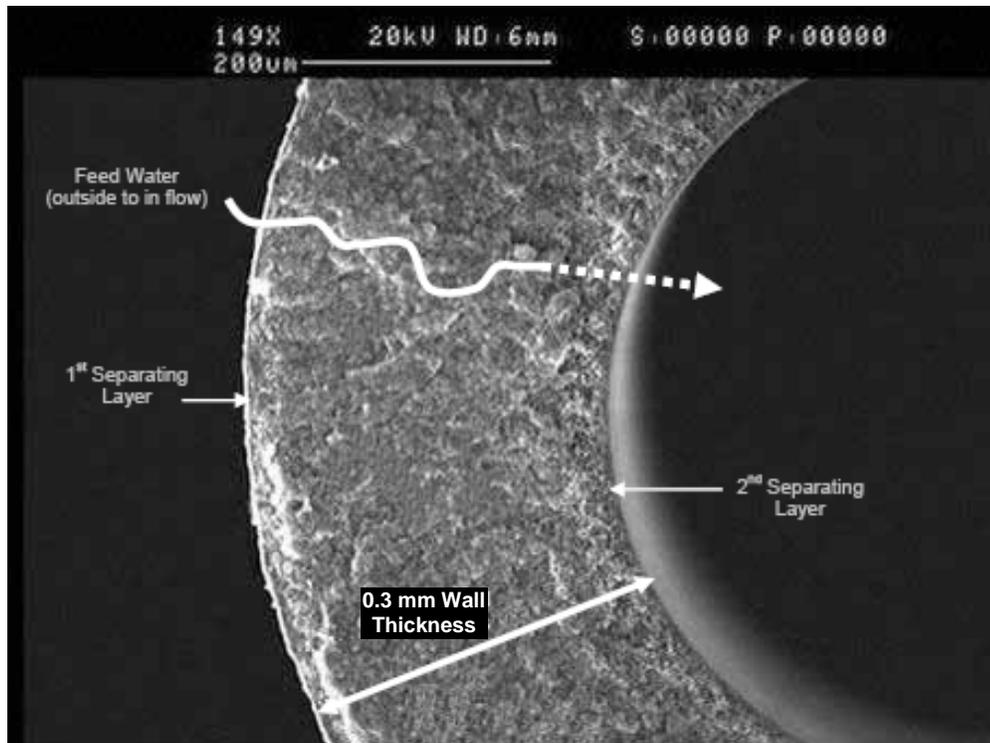

Figure 2: Wall Cross Section of the Hollow Fiber
1. Install Base Clip (1). Drill two 10 mm diameter holes on Skid Frame. Fix base clip on Skid Frame (2) (by Customer) with Bolts (3) (M8-size, by Customer). The length of the Bolts used for the Base Clip (1) will depend on the thickness of the Skid Frame. Refer to Figure 2, Base Clip Detail.